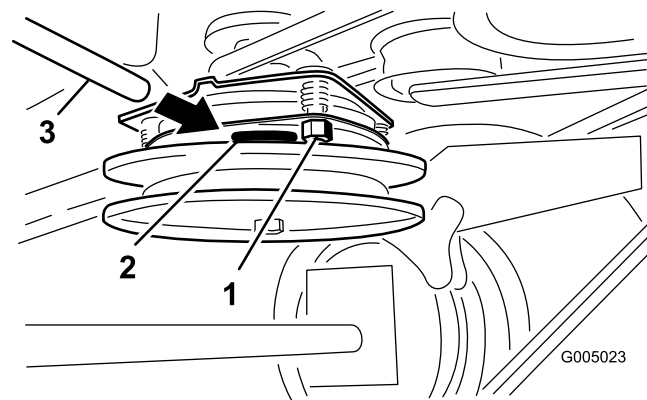

Figure 42
- Tighten the lock nuts until there is slight binding on the feeler gauge but it can be moved easily within the air gap (Figure 42).